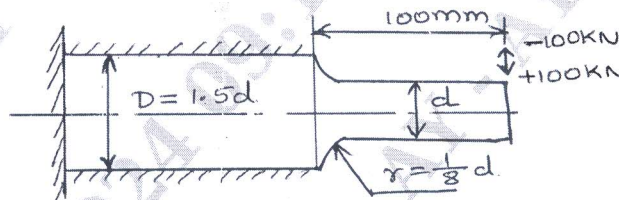

Fig.Q8(b)
- b. A stepped shaft of circular cross section shown in Fig.Q8(b) is subjected to variable load which is completely reversed with a value equal to 100 kN. It is made of SAE 1045 steel annealed ( $\sigma_u = 586.4$  MPa,  $\sigma_y = 309.9$  MPa,  $\sigma_{-1} = 289.3$  MPa). Determine the diameter 'd' and radius 'r', so that the maximum stress will be limited to a value corresponding to a factor of safety of 2. Notch sensitivity index = 1.